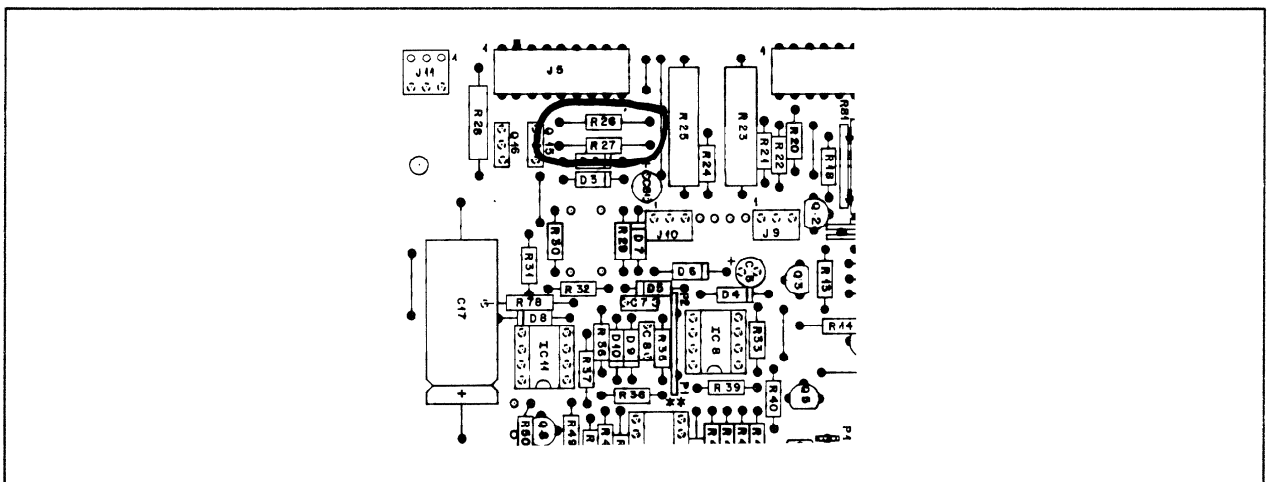

Fig. 1.3
- Start recorder in play mode and measure voltage drop across R26 (Microprocessor PCB 1.710.465 / fig. 1.3)